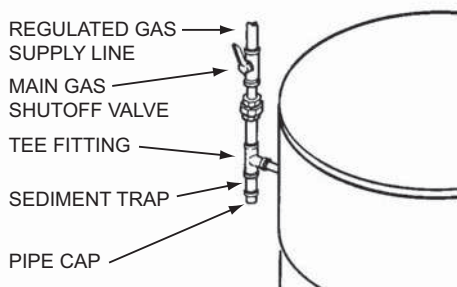

Figure 54. Supply Gas Line Installation
Ensure all gas pipe is clean on the inside before installation. To trap any dirt or foreign material in the gas supply line a sediment trap must be installed as shown in **Figure 54**. The sediment trap must be readily accessible and not subject to freezing conditions. Install in accordance with the recommendations of the local gas utility company.
7. Install a sediment trap as shown in *Figure 54* (page 39).
8. Install a Main Gas Shutoff valve in the supply gas line as shown in *Figure 54* (page 39).
1. For test pressures exceeding 1/2 psi (3.45 kPa) disconnect the water heater and its Main Gas Shutoff Valve from the gas supply piping system during testing, see *Figure 54* (page 39). The gas supply line must be capped when disconnected from the water heater.